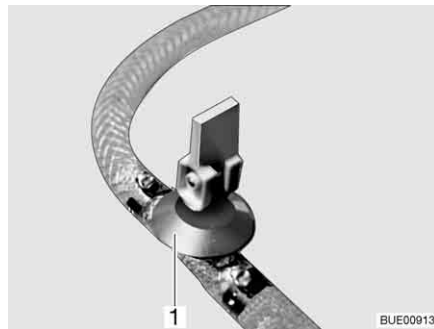
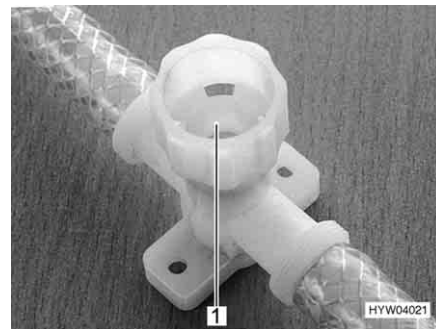

Fig. 185 Drain cock (with rocking lever)
Fig. 186 Drain cock (with twist cap)
- Close all drain cocks. To do this, position the drain cock's rocking lever (Fig. 185,1) horizontally or turn the drain cock's cap (Fig. 186,1) in a clockwise direction.